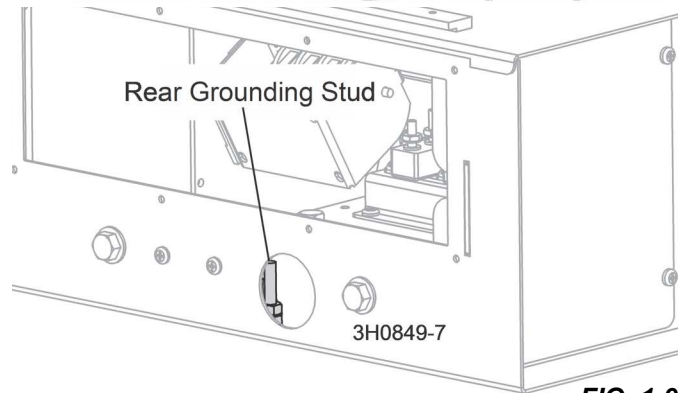

FIG. 1-9
1. Remove the existing 1/4-20 self-locking nut and flat washer which secure the existing wires on the rear grounding stud at the rear of the control box. **See Fig. 1-9.**